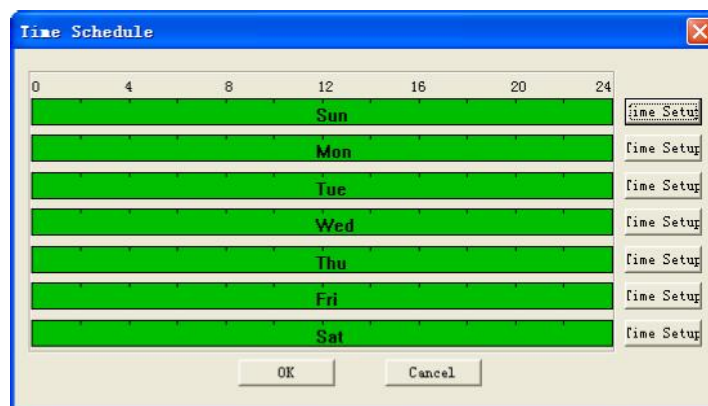
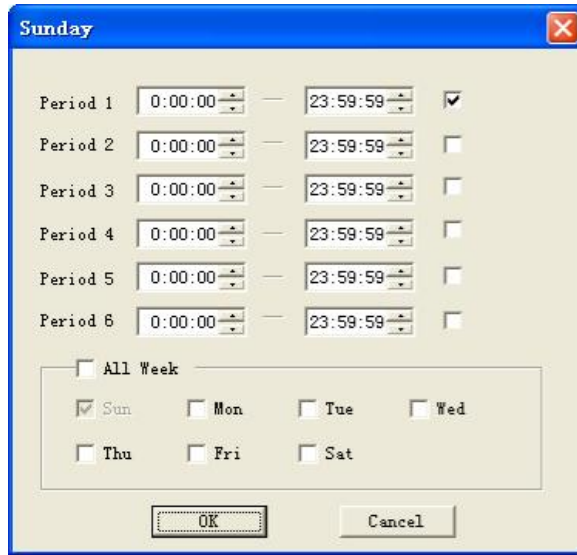

Figure 7-39
Figure 7-40
- ✧ **Period:** This is where you set record period. Click set button to display interface as shown in Figure 7-39. In Figure 7-39, click time set button to display interface as shown in Figure 7-40. Here you set time period.